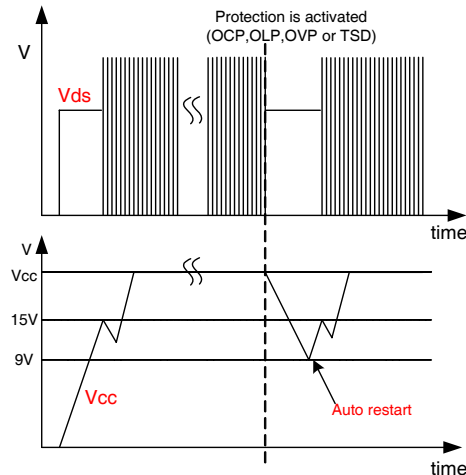

Figure 24. Auto restart operation after protection
3. Protection function: FS8S0765RCB has four self-protective functions such as abnormal over current protection (AOC), overload protection (OLP), over-voltage protection (OVP) and thermal shutdown (TSD). Because these protection circuits are fully integrated into the IC without external components, the reliability can be improved without cost increase. In the event of these fault conditions, the FPS enters into auto-restart operation. Once the fault condition occurs, switching operation is terminated and MOSFET remains off, which forces V_{cc} to be reduced. When V_{cc} reaches 9V, the protection is reset and the supply current reduces to 80 μ A. Then, V_{cc} begin to increase with the current provided through the start-up resistor. When V_{cc} reaches 15V, the FPS resumes normal operation if the fault condition is removed. In this manner, the auto-restart alternately enables and disables the switching of the power MOSFET until the fault condition is eliminated, as illustrated in Figure 24.